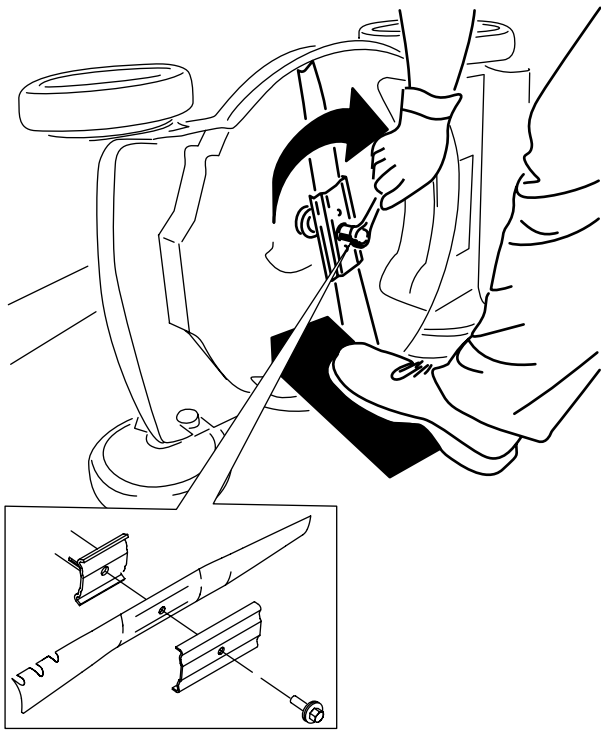

Figure 50
5. Install the new blade and all mounting hardware (Figure 50).